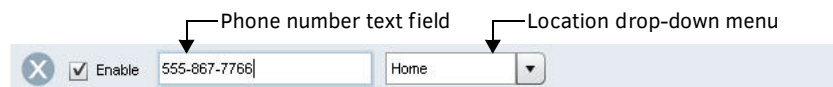

FIG. 310 Phone User Contact Information
- a. Enter the user's Phone number in an empty **Phone** text field (FIG. 310):